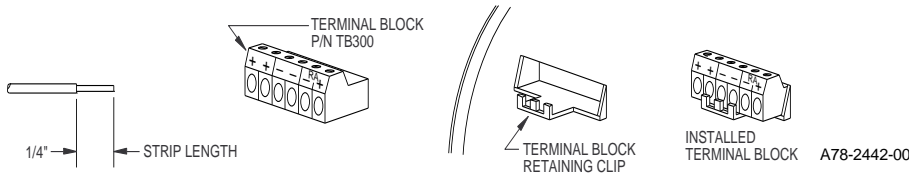

Figure 3. Terminal Block Wiring Guide
2. Wire the plug-in screw terminal block per the wiring diagram (Figure 2) and the wiring guide (Figure 3). Do not over-tighten the screws in the terminal block.
4. Plug the screw terminal block into the detector as shown in Figure 3. The terminal block can only be inserted one way.